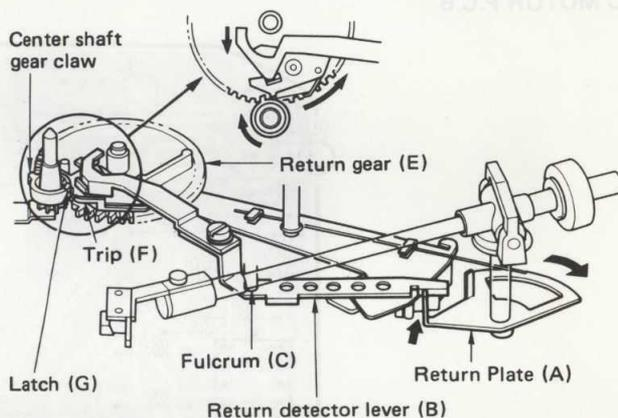
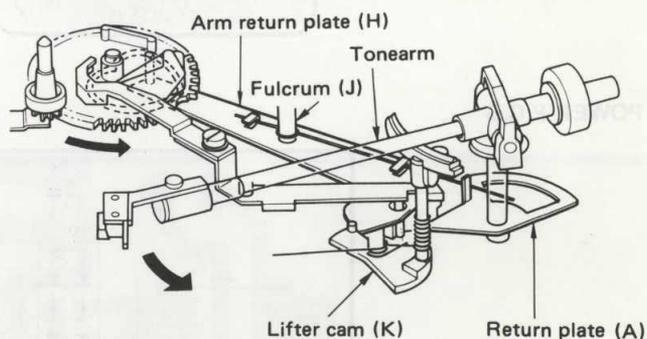

Fig. 4
Fig. 5
4. When the tonearm approaches the record lead-out groove near the end of play, return plate (A) will start to push against the end of return detector lever (B). (Fig. 4)
5. Since return detector lever (B) rotating movement is centered at fulcrum (C), the other end of the lever will push trip (F) mounted on top of return gear (E) out towards the center shaft. (Fig. 4)
6. When the end of the record is reached and the stylus enters the lead-out groove, the claw of latch (G) above trip (F) being pushed by the return detector lever makes contact with the center shaft gear claw. (Fig. 4)
7. Guided by the latch, the return gear commences to rotate and intermesh with the center shaft gear. Return gear (E) thus rotates counter clockwise. (Fig. 4)
8. The under side of return gear (E) includes a specially shaped cam groove, and as the gear rotates arm return plate (H) centered at fulcrum (J) moves back and forth. This arm return plate first pushes against lifter cam (K) which is coupled to the arm lifter, thereby resulting in the tonearm being lifted away from the record.
9. Then the rod at the other end of the arm return plate pushes against return plate (A), thereby returning the tonearm to the arm rest. (Fig. 5)
10. The tonearm is thus returned right back to the arm rest when the return gear has completed half a revolution. When the gear proceeds to rotate further, the arm return plate moves in the opposite direction. And since the microswitch is attached to the arm return plate, it is switched off when it is pressed against return plate (A).
11. While the return gear is rotating, latch (G) returns to its former position. The return gear then stops rotating when the section without gear teeth is reached. The mechanism is thus back in the same state as prior to start of play.